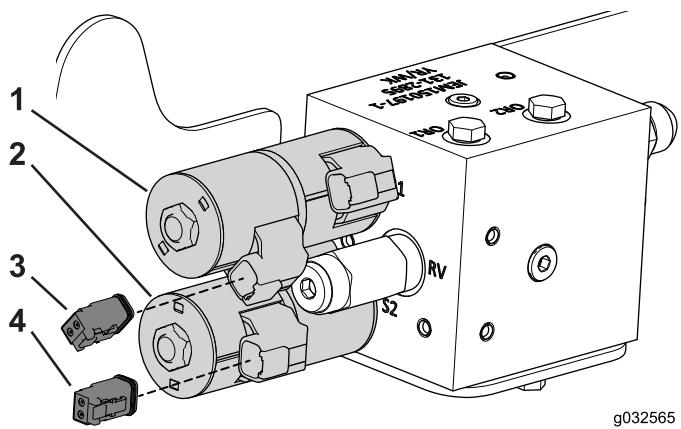

Figure 5
1. Remove the cap (3)	3. Hose (connect to the fitting at the T port)
11. Locate the connectors on the wire harness for the kit, unbind them, and connect them to the connectors on the solenoids as shown in Figure 5.